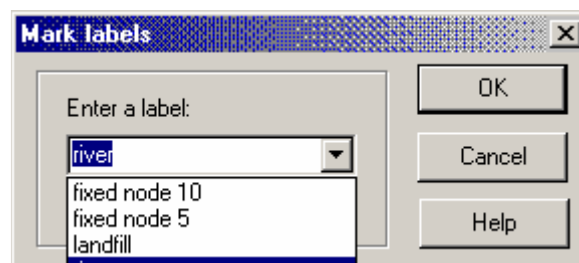

Figure 24: Mark data or labels pop-up menu
- Click on the -button or press F2 (Mark data or labels). A pop-up menu appears (Figure 24). (If it mentions values rather than labels, you probably forgot to first select label 1 as the active parameter.)
- Make sure that the label name "river" is selected by using the drop-down list (see Figure 24), and click on the OK button. You'll notice that the river nodes will now be marked.